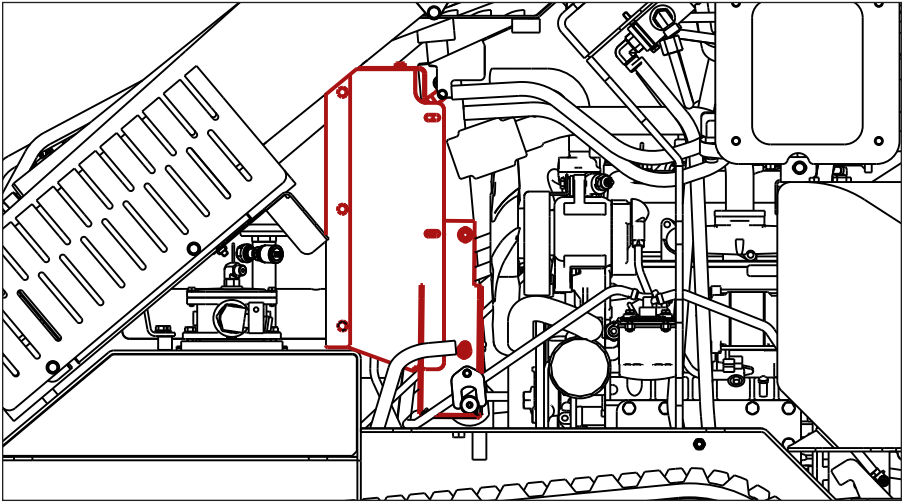

Figure 3-5 Radiator Air Flow Inspection
5. Inspect the radiator to make sure that the air flow is not blocked. The fan located between the radiator and engine is a suction fan, which draws air from outside the machine. Check radiator (Figure 3-5) to make sure that debris has not been sucked against the radiator blocking air flow.
NOTE: Some items in **Figure 3-5** have been removed for clarity.